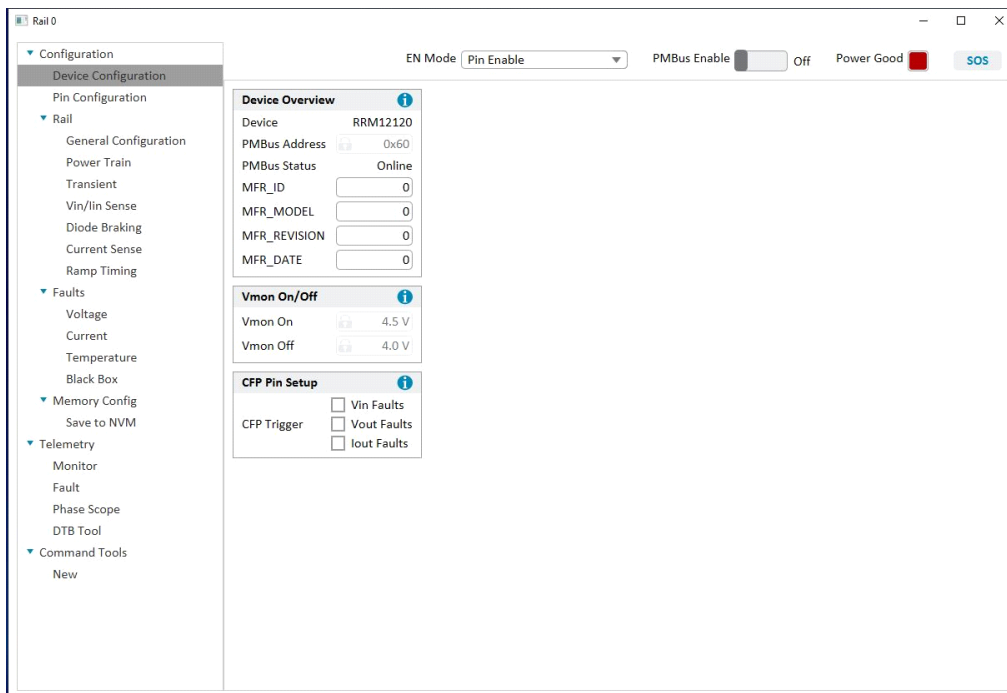

Figure 5. PowerNavigator Configurations Page
- Double-click on Rail 0 box in the middle panel of the page. A configurations page shown in Figure 5 appears. The items on the left panel can be selected and its associated parameters modified according to your requirements.